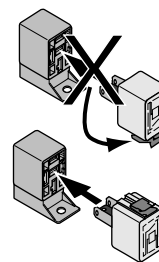

fig. 2
7. Connect the relay to the wiring harness (see figure 2).